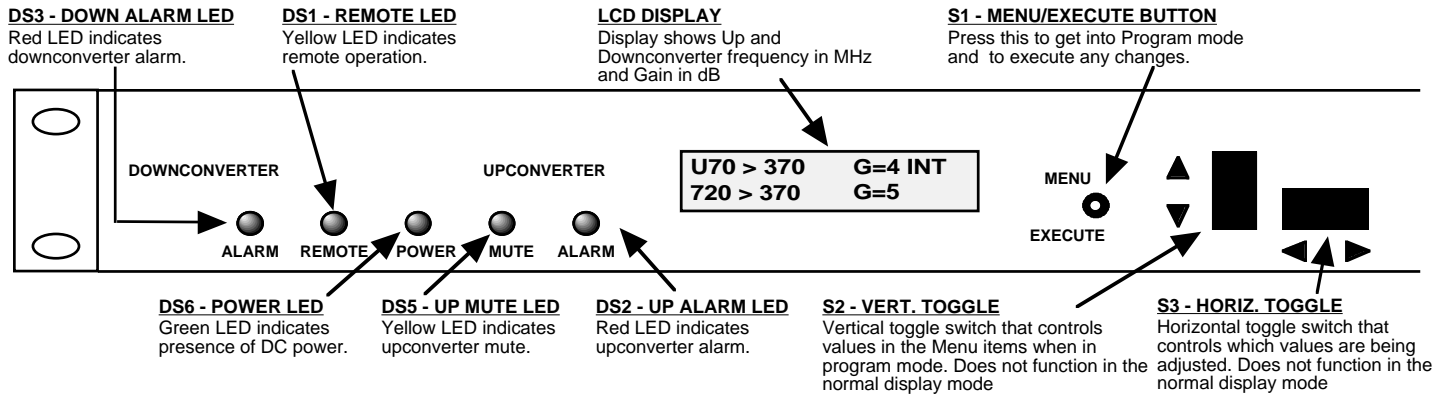

Figure 2.2 Model 2017-370 Front Panel Controls and Indicators
Figure 2.2 shows the input and output connectors on the rear panel.
- 6.) Be sure DS6 (green, DC Power) is on and DS2 (red, Alarm) is off (Figure 2.2).
2.5.1 Functions - This section describes operation of the front panel controls. There are three operator switches, the LCD display and alarm indicator LEDs. All functions for the equipment are controlled by these components. The functions are (see Figure 2.2):
Alarm indications appear on the LEDs (see figure 2.2).